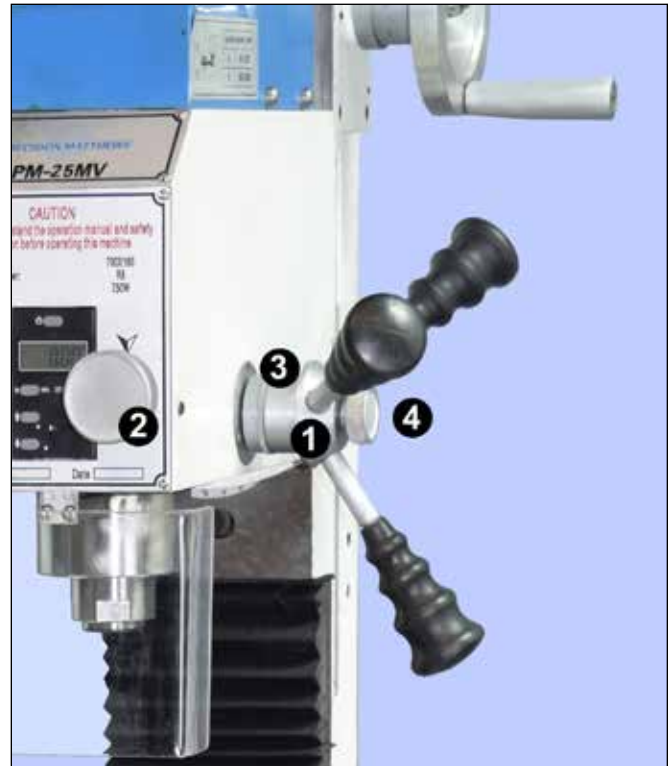

Figure 3-7 **Quill downfeed controls**
Coarse feed (Figure 3-7)
Fine feed (Figure 3-7)
4. Engage the fine downfeed, Figure 3-7.